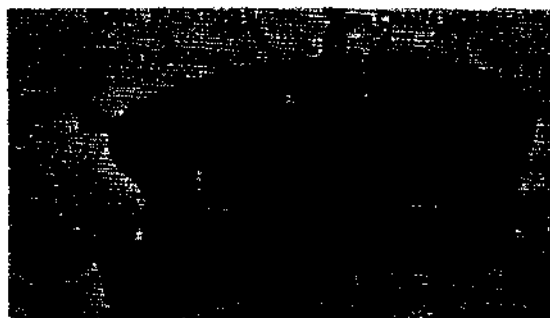

Figure 112. Driving out rocker shaft
- (2) Attach a suitable chain hoist to the fifth wheel and drive rocker shaft from the walking beam (fig. 112).